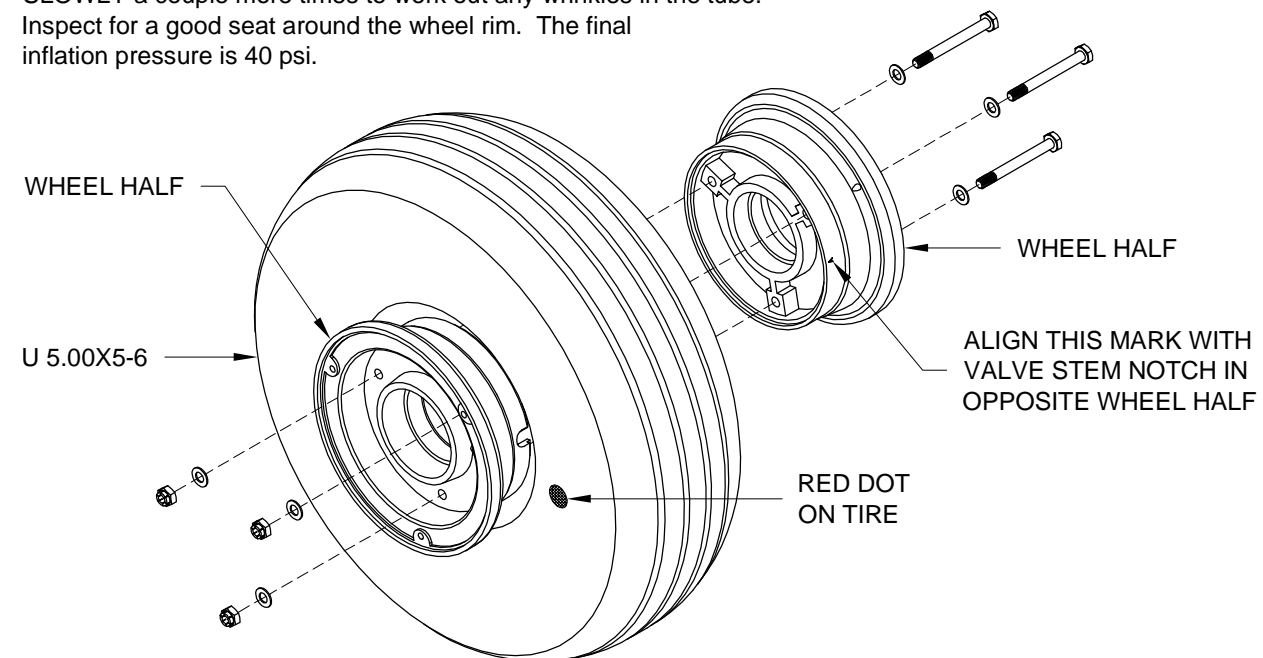

FIGURE 3: NOSE WHEEL AND TIRE ASSEMBLY
Step 7: Remove the nut and washers from the valve stem of the U 5.00X5-6IT Tube (not shown in Figure 3). Dust the tube and the inside of the U 5.00X5-6 Tire with talcum powder, then mount the tube and tire on the Wheel Halves. The mark indicated in Figure 3 on one of the wheel halves should be aligned with the notch for the valve stem in the opposite wheel half. As before, the red dot on the tire is installed next to the valve stem. Bolt the wheel halves together.